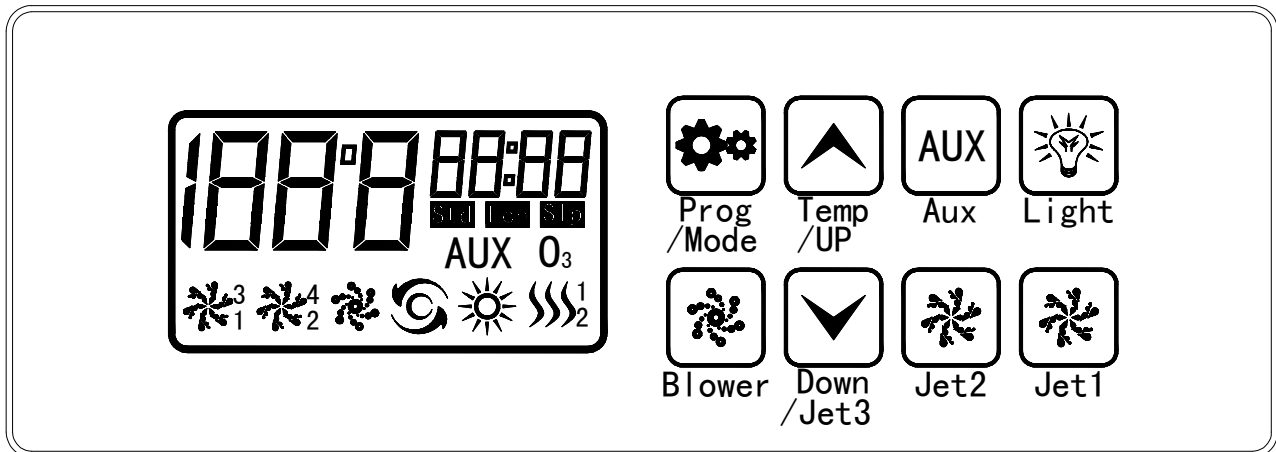
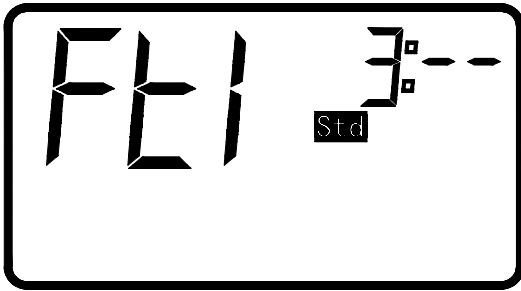

Fig3: TUCH panel
Fig4: continued working timer is 3 hours
- 5、 After complete the start working clock setting , Press “” button again (press this button the third time) or press “” button thrice under non-setting station, the system will go to continued working timer setting. The timer can be set 3、 6、 9 hours or for continuous filtration FILC (Fig4) 。 the default filter timer is 3hours (Fig3) 。